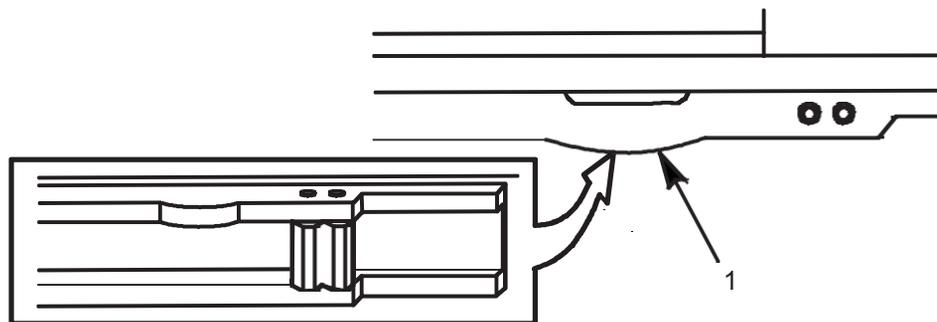
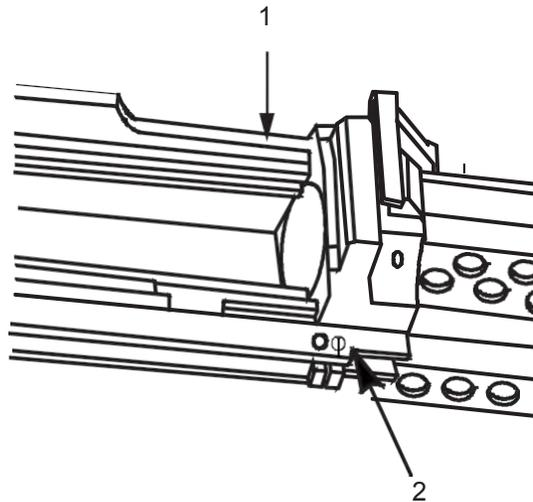

Figure 8. Bulge on Cocking Handle Channel.
Figure 10. Cocking Handle Stop.
- b. Inspect the upper rail of the cocking handle channel for a bulge (Figure 8, Item 1) just rear of the cocking handle stop (Figure 10, Item 2).
5. Inspect left side slide rail (Figure 10, Item 1) (inside receiver) for looseness.